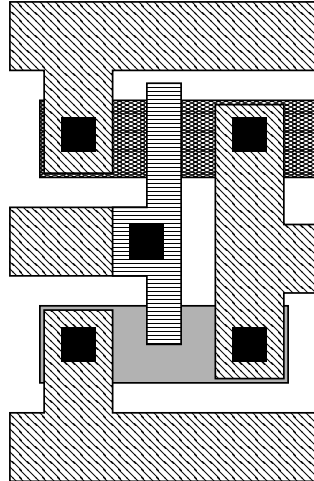

Figure 4: Messed up layout.
4. **(10 pts.)** Consider the layout in Figure 4.